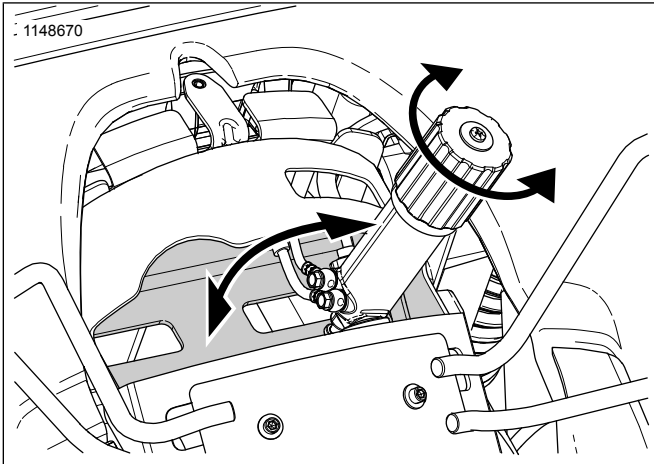

Figure 5. Rear Suspension Adjuster
1. See Figure 5. Rotate adjuster out of stowed position.